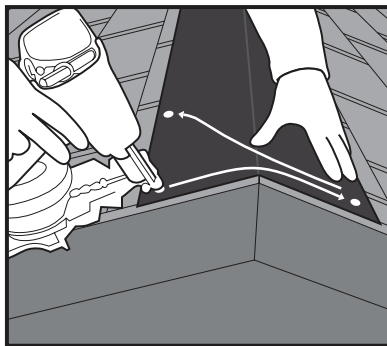

Fig. 3
- 3) Roll out the vent along the ridge, using the chalk lines for alignment. Remove any slack from the vent and nail the vent every 6" nailing from one side of the vent then the other. See Figure 3.